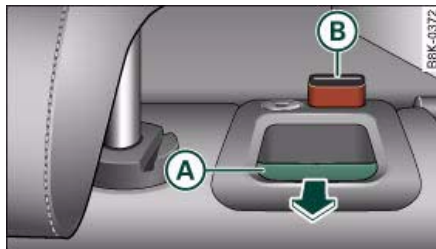

Fig. 88 Backrest release lever
- Press the release lever (A) ⇒ fig. 88 in the direction indicated (arrow).